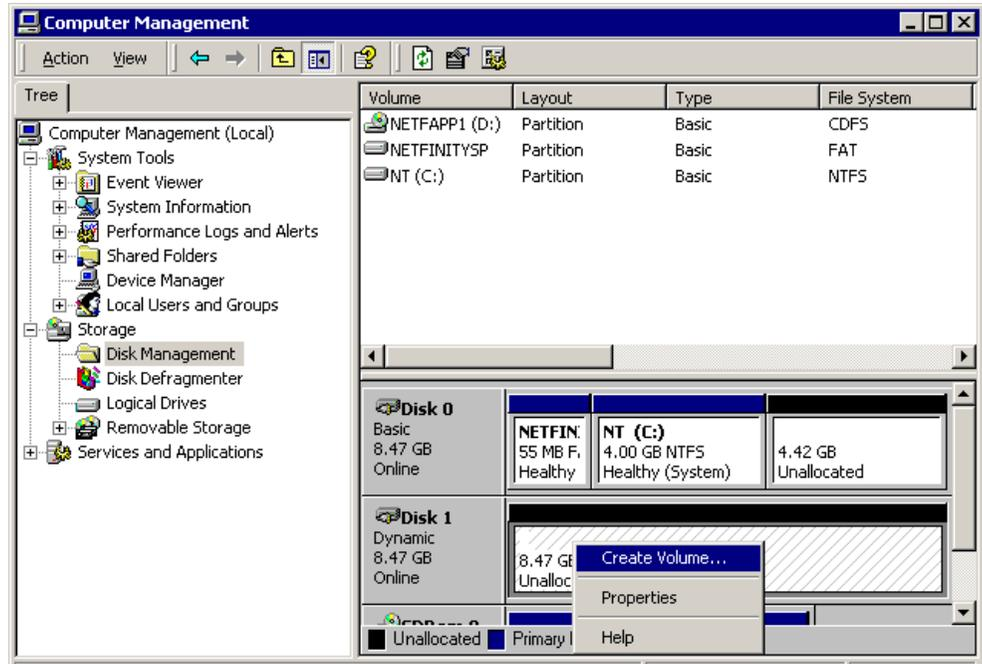

Figure 100. Create Volume
2. Right-click unallocated space on the basic or dynamic disk on which you want to create a partition or volume and choose **Create Partition...** (basic disk) or **Create Volume...** (dynamic disk) from the context menu, as shown in Figure 100: